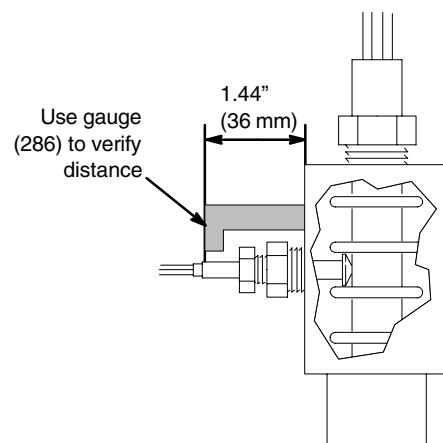

Fig. 16
- Use needle nose pliers to push the probe into the manifold (253) so it is between two heater element coils, is touching the heater element cord, and protrudes 1.44 in. (36 mm) from the manifold. A gauge (286) can be used to verify this distance. Finger-tighten the packing nut (247a). See Fig. 16.